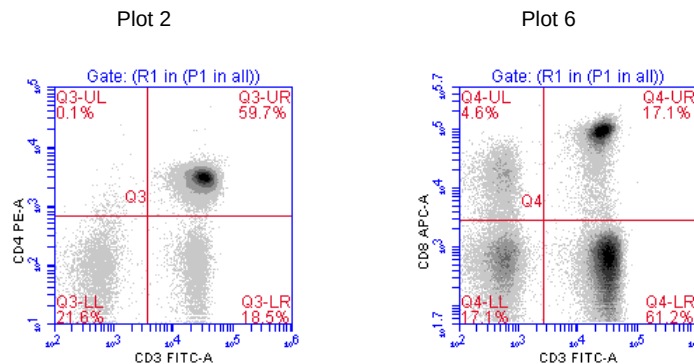

Figure 3-37 Result of axes view adjustment to 4 logs for Plots 2 and 6.
10. See Figure 3-37 for results of axes range adjustments.